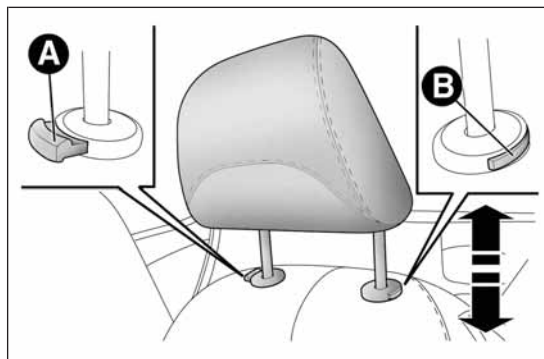

fig. 25
- ☐ downwards adjustment: press button A fig. 25 and lower the head restraint.
- ☐ press buttons A and B fig. 25, then remove the head restraints by pulling them upwards.